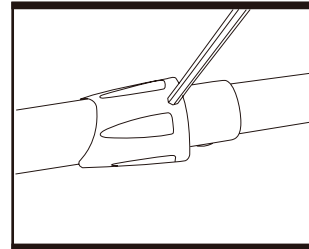

Fig. 8
To separate the shaft to enable cable replacement, press the locking pin (18) with a appropriate tool and then pull middle shaft (4) away from upper shaft (3). Repeat in the same way for middle shaft (4) and lower shaft (19).(See Fig.8)